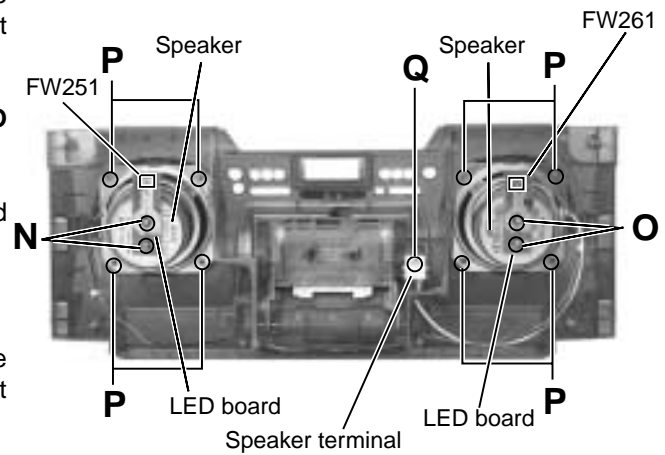

Fig.20
■ Removing the LED boards (See Fig.20)
■ Removing the speakers (See Fig.20)